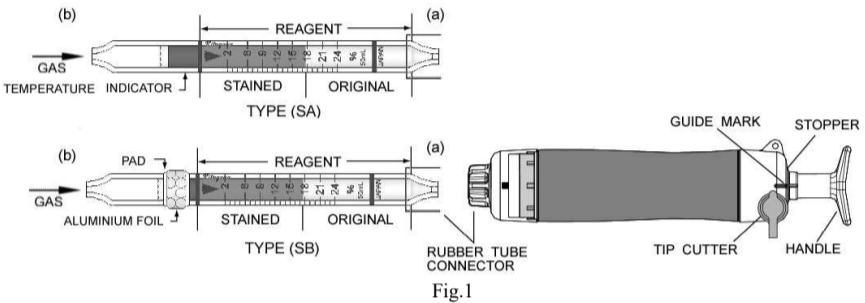

Fig.1
- ① 159SA; Heat the temperature indicator of the tube with a match or cigarette lighter until the indicator is changed from pale pink to pale purple.
- ② Break end (a) first and end (b) second on the detector tube.
- ③ Insert the detector tube into aspirating pump securely as shown in Fig.1. (Arrow mark shall point to the pump.)
- ④ Align the guide marks on the handle and stopper of the aspirating pump.
- ⑤ Pull the pump handle at a 1/2 stroke (to 50mL line) until it locks and wait for 2 minutes or until the completion of sampling is confirmed with the flow indicator of the pump. (See descriptions about the flow indicator in the instruction manual of the pump.)
- ⑥ On completion of sampling, read the scale at the maximum point of the stained layer.